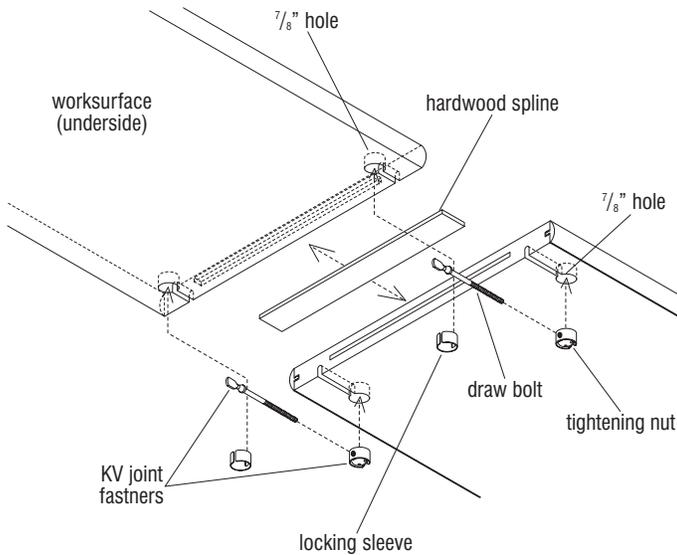

Figure 3
9. Worksurfaces are to be joined together from underneath with two KV joint fasteners per pair of worksurfaces (Figure 3). First join both worksurfaces together, aligning the hardwood spline (installed in one worksurface at the factory). Check to make sure
the hardwood spline fits snug in both worksurfaces. If it does not, lightly sand down the spline so it does fit. If this is not done, it may be difficult to get a tight fit on the worksurface seam. The spline joint and worksurface seam are to be glued using the adhesive supplied with the KV fasteners. Do not use a wood glue for seam gluing as the working time for that adhesive is too short. Thread each draw bolt a few turns into each tightening nut and press each pair up into a 7/8" hole and slot. The flat end of each draw bolt will be visible in the 7/8" holes of the worksurface being joined. Insert locking sleeves into the 7/8" holes so that the slotted sleeve engages the rounded collar on the bolt (Figure 3). Tighten the nut with a tightening tool or nail set. Check the top side of the joint for alignment. The joint should be smooth and level, with no gaps. Adjust as necessary to achieve a "seamless" look. Once the seam is glued and KV fasteners are installed, use C-clamps to clamp both ends of the seam.